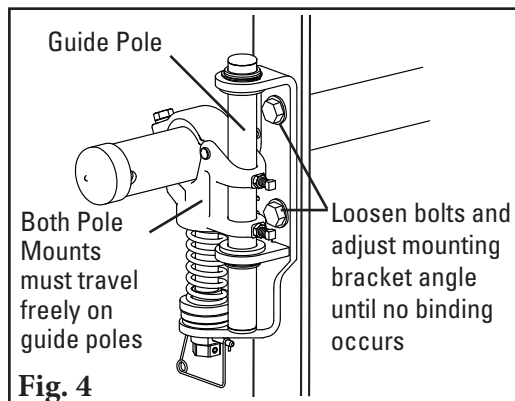

Fig. 4
4. **Ensure the tensioner travels freely.** Pull up and push down on each pole end to ensure the pole mount travels freely on the guide pole. If there is any sign of binding, loosen the bolts on the mounting base and pivot until the tensioner moves freely (Fig. 4). Retighten bolts.